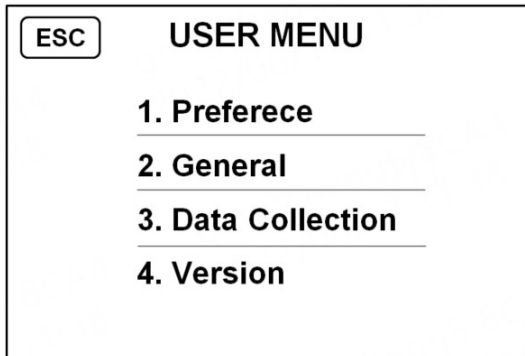
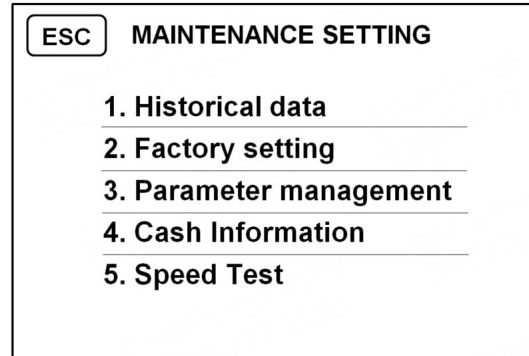

Figure 26
Figure 50
1) Press the **"MENU"** key on the right to enter the USER MENU main interface, as shown in Figure 26 below. Then press the **"MENU"** key twice in succession to enter debug mode, as shown in Figure 50 below: